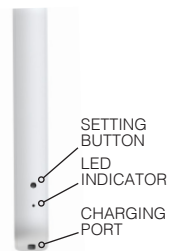

Figure 2: Wand Charging Port
1. Use an opened paperclip to fully press and hold down the setting button on the back of the wand until the shade jogs 3 times and beeps 4 times **[Figure 2]**. This removes all programming.